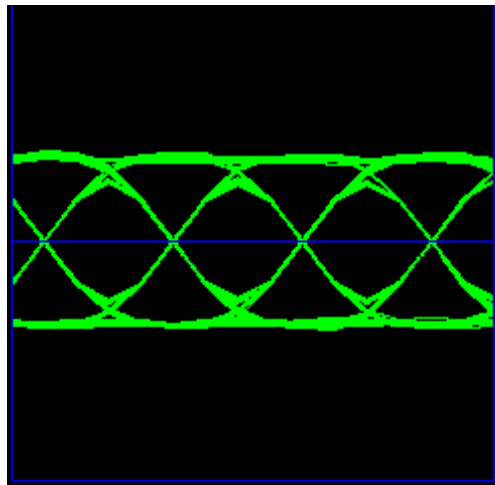

Figure 305: "Clean" Eye Pattern
- The eye pattern NEVER looks "clean," as in Figure 305